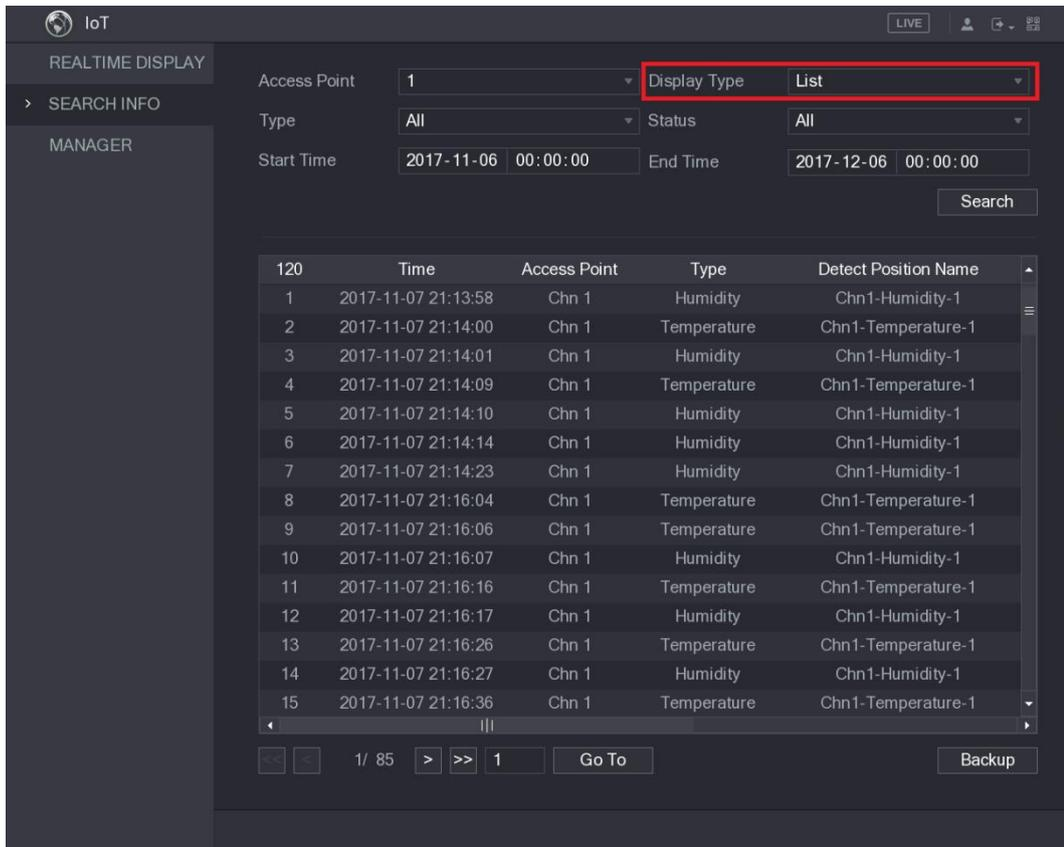

Figure 5-176
- For the data displayed in list, see Figure 5-176.